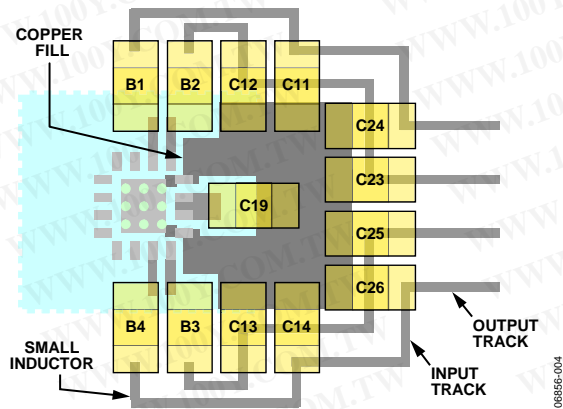
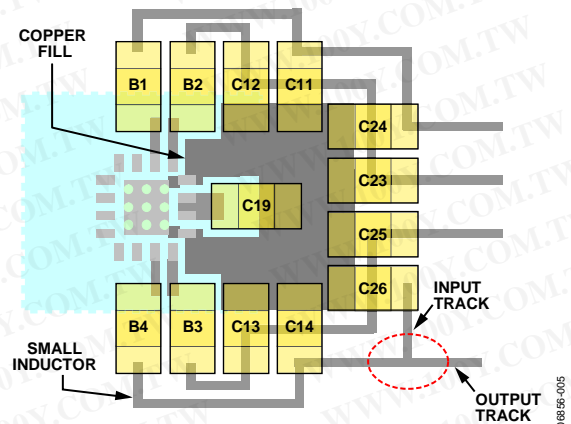

Figure 4. Placement and Routing of the Decoupling Capacitors
Figure 5. Incorrect Routing for the Output Decoupling Capacitors
- Place the decoupling capacitors for the beads (C11 to C14 and C23 to C26) as close to the amplifier chip as possible, and connect all their ground terminals together, as shown in Figure 4. The same principle applies to the decoupling capacitors for the inductors (C15 to C18) if inductors are used in the application design. Ideally, solder their ground terminals together; do not rely on PCB tracks or ground planes to connect their ground terminals together.
- Place the first decoupling capacitor for the power supply (C19) as close to the amplifier chip as possible, and connect its ground terminal directly to the IC GND pins (Pin 13 and Pin 16), as shown in Figure 4.
trace between these two capacitors serves as an inductor for filtering out the high frequency component, as shown in Figure 4.
- The incoming and outgoing PCB track connections to the decoupling capacitors should not be connected to each other. An example of a correct layout is shown in Figure 4. An example of an incorrect layout is shown in Figure 5.